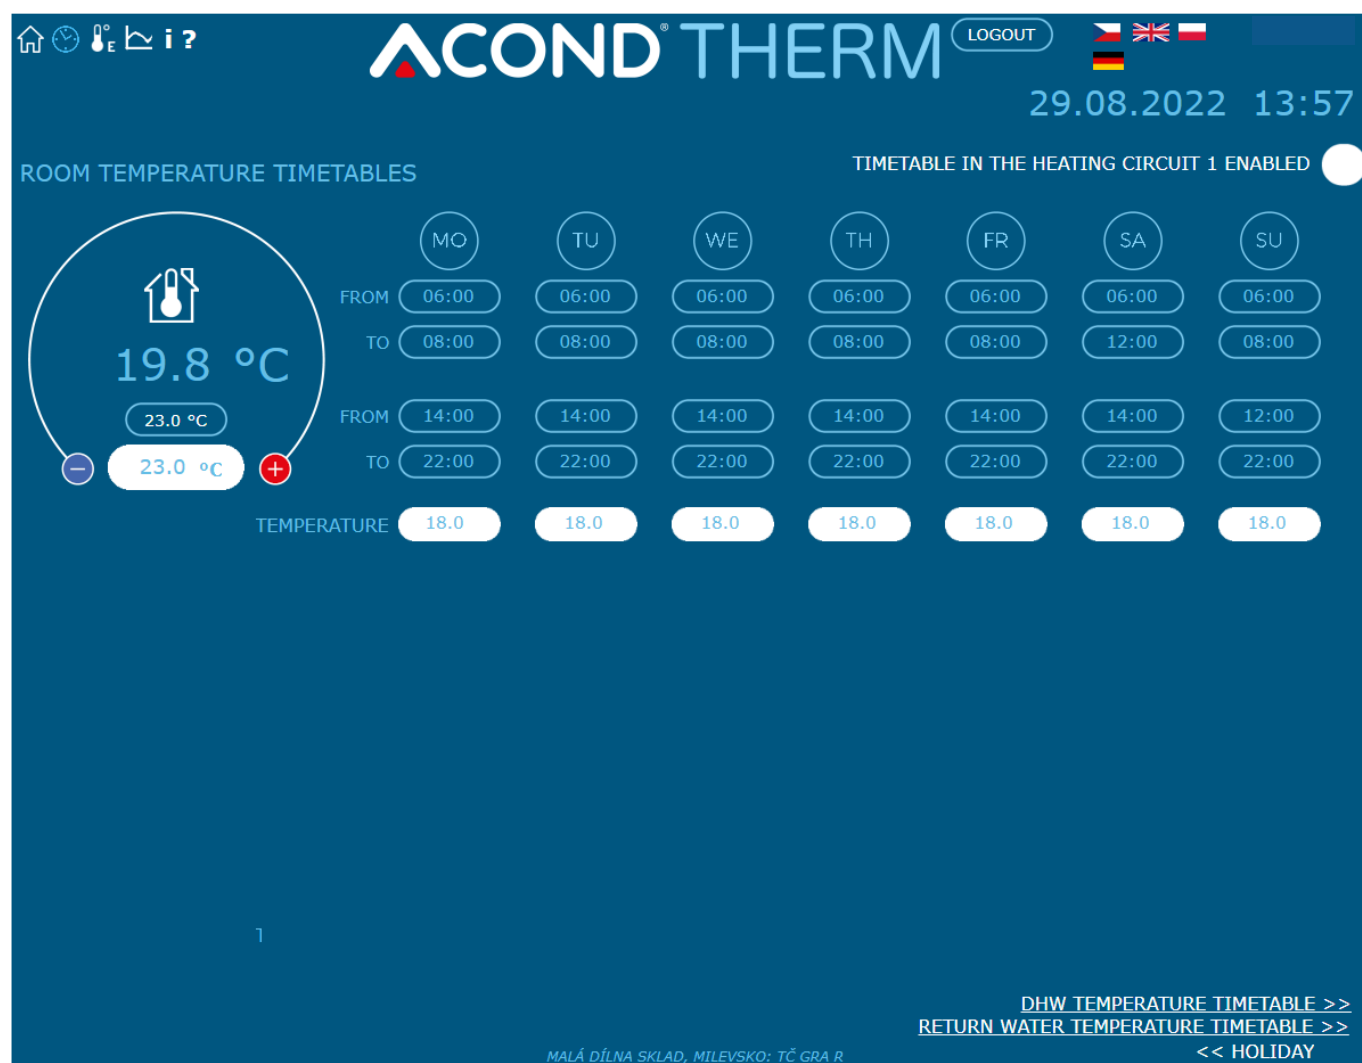

Figure 13: Room temperature schedule
2. **Timetables**  (**Figure 13**) allows setting the value of the automatic change of the desired room temperature (or temperature in the storage tank in STANDARD control) according to the time of day. Here it is possible to implement e.g. a night temperature drop.